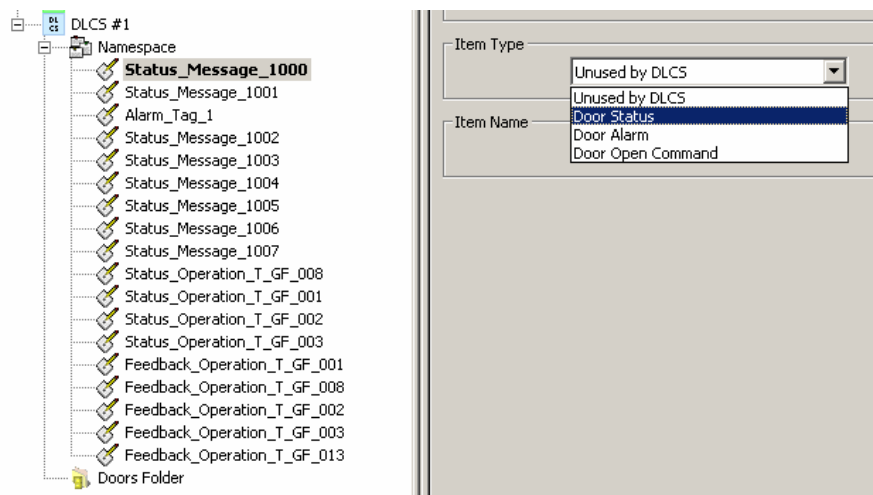

Fig 7 Setting the item type on the Node tab
3. In the Item Type drop-down list, set the type (see Fig 7).